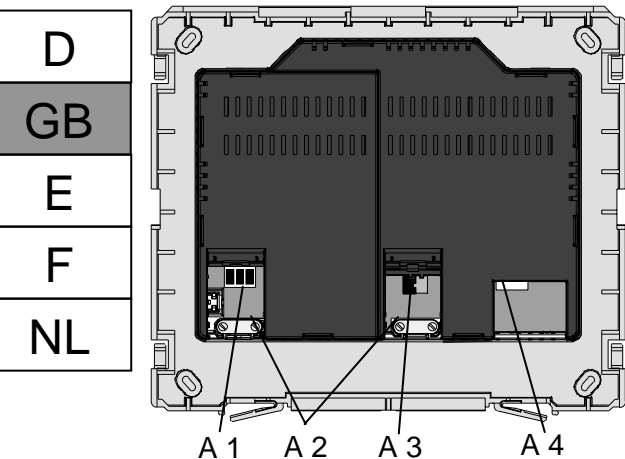

Figure 1: Location and Function of the Display and Operating Elements
- The bus cable must be inserted in the terminal compartment (Figure 1: A3) together with the sheath and then fixed with the cable clamp (figure 1: A2).
The mains connecting cable must be fixed with the cable (Figure 1: A 2).
Once the bus terminal and the network terminal have been connected to the cables, the terminals must be inserted in the corresponding outlets on the Touch-Manager (Figure 1: A 4)